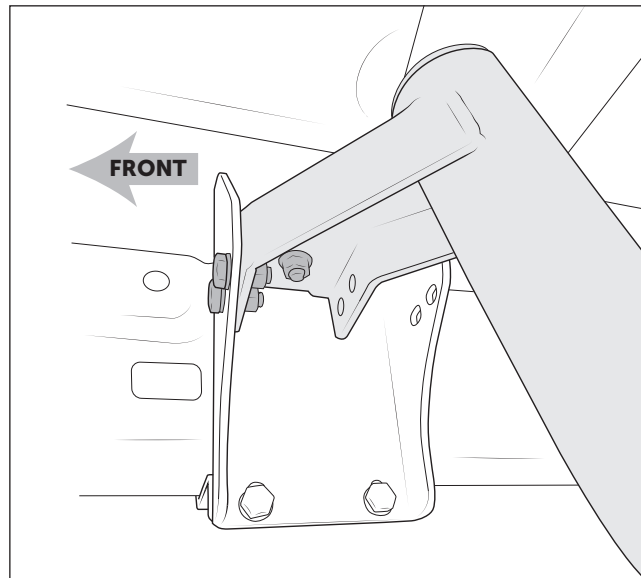

Figure 36: Driver's Side Shown
5. Using three of the supplied M10x25 Hex head bolts, washers, and flange nuts, loosely install the top side of the corner assembly onto the previously installed frame rail bracket (fig. 36). NOTE: 2019+ Coil Spring Suspension option shown.
- B. Torque upper corner assembly nuts (fig. 36) to **43 lb-ft.**